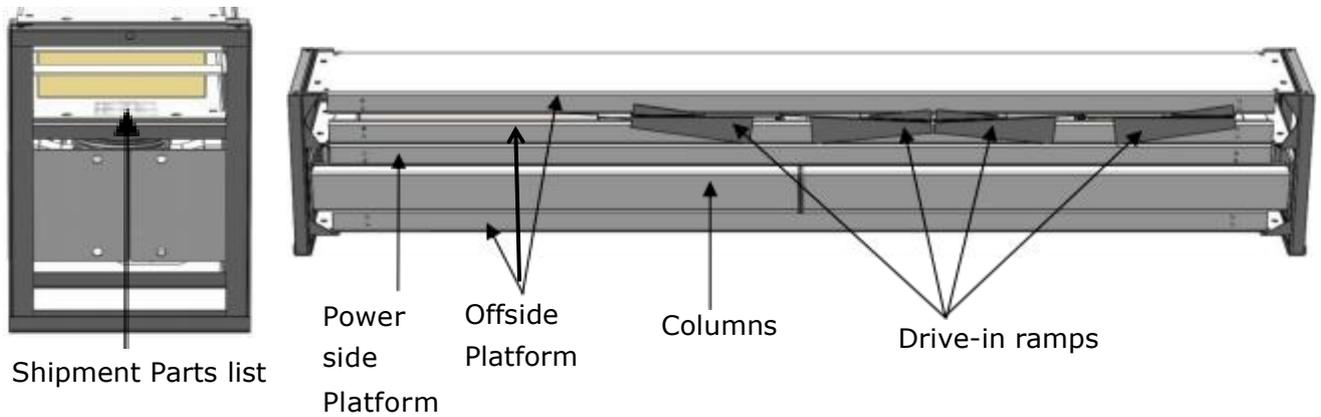

Fig. 9
2. Move the lift aside with a fork lift or hoist, unpack the lift, tear off the shipment parts list and check the components in the package according to the list. (See Fig. 9)